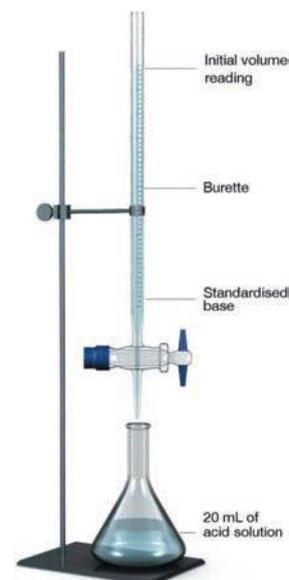

Figure 1.3.9:
- The burette is filled to below the zero mark, with the meniscus read at eye level (Figure 1.3.9).